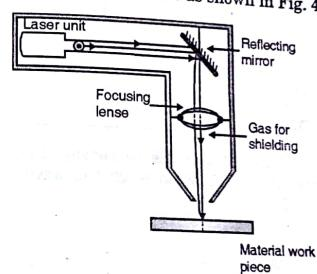

Fig. 4.14.2 : Laser welding machine
**(1) For welding and melting :** In very short time metal can be melt and then it will be evaporating. Thus accurate welding and melting of the hard material can be done very easily. Using laser perfect and non porous joints of metals are possible. The typical laser welding machine is as shown in the Fig. 4.14.2.
The typical laser welding machine is as shown in Fig. 4.14.2.